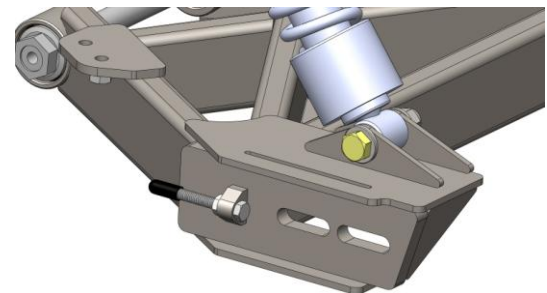

Figure 7
- a. Install the supplied 5/16-18x2-1/4 hex head adjuster bolts and jam nuts onto swing arm. Adjuster bolt should be in the furthest forward position to allow room to place belt around rear pulley in a later step. Figure 7